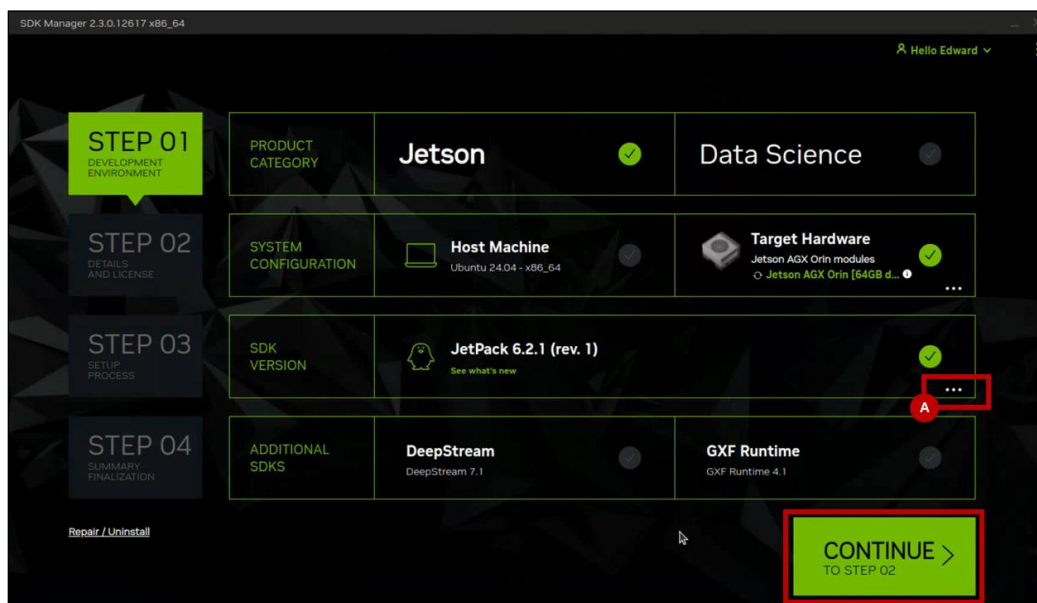

Figure 6.7. JetPack 6.2.1 (Rev.1)
- Click the ... icon at (A) as shown in Figure 6.7, and select **JetPack 6.2.1 (Rev. 1)**. Then, click **CONTINUE** to proceed.